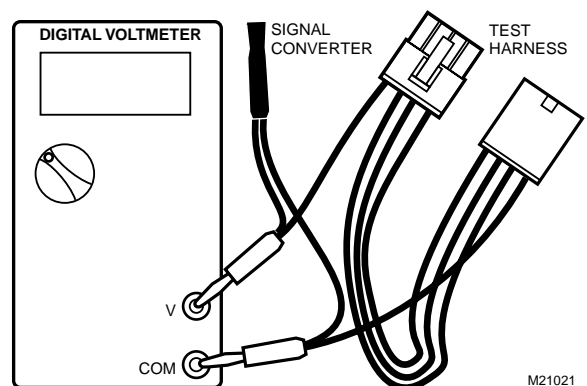

Fig. 2. Test harness connected to adapter and digital voltmeter.
NOTE: Millivolt measurement requires a digital voltmeter capable of reading dc millivolts. Use the signal converter included with this kit. See Fig. 2.
- a. Insert the valve side of the test harness through the female end of the signal converter connector and into the positive (+) jack of the digital voltmeter, as shown in Fig. 2.
- b. Insert the pilot burner side of the test harness through the female end of the signal converter connector and into the negative (-) jack of the digital voltmeter, as also shown in Fig. 2.